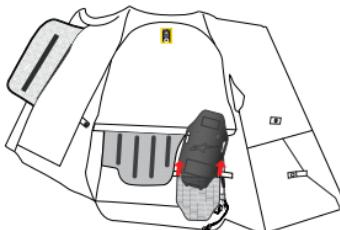

Figure 13
3. Remove the Inflator Housing (4) from its pocket by opening the two fastening hook-and-loop patches (Figure 13).